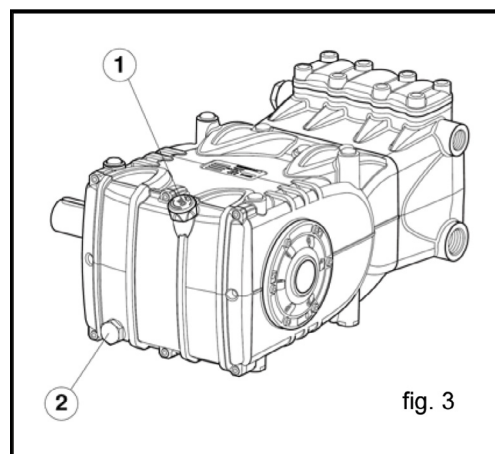

fig. 3
Check the oil level by using the oil level dipstick (1), fig. 3. Refill if necessary to top off level. Correct oil level inspection is done with the pump at room temperature; oil is changed with the pump at working temperature, by removing the oil dipstick (2), fig 3, and then the drain plug (3), fig. 3.